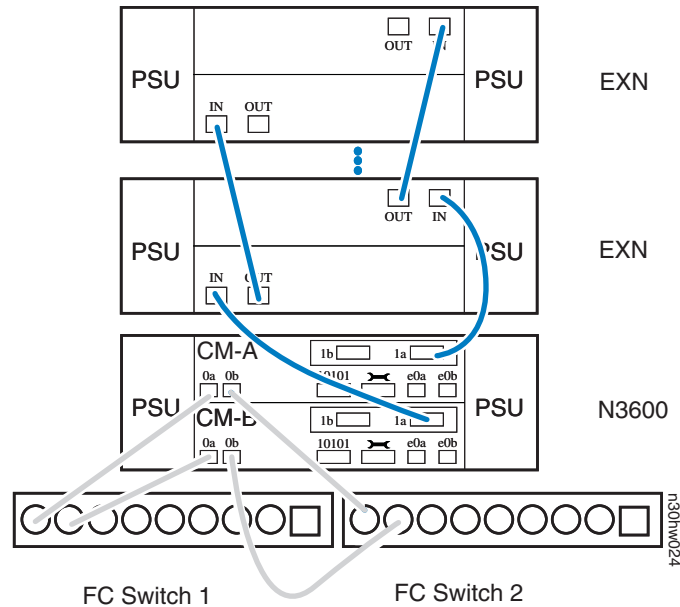

Figure 6. Cabling the N3600 expansion adapter to storage expansion units
3. As shown in Figure 6 on page 25, cable the dual-port expansion adapter Port 1a on the top controller module (CM-A) to the first storage expansion unit Channel A ESH2/ESH4 or AT-FCX IN port.
4. As shown in Figure 6 on page 25, cable the dual-port expansion adapter Port 1a on the bottom controller module (CM-B) to the first storage expansion unit Channel B ESH2/ESH4 or AT-FCX IN port.
5. As shown in Figure 6 on page 25, cable the first storage expansion unit Channel A ESH2/ESH4 or AT-FCX OUT port to the next storage expansion unit Channel A ESH2/ESH4 or AT-FCX IN port. Label this cable with a solid-colored label.
6. As shown in Figure 6 on page 25, cable the first storage expansion unit Channel B ESH2/ESH4 or AT-FCX OUT port to the storage expansion unit Channel B ESH2/ESH4 or AT-FCX IN port. Label this cable with a solid-colored label.